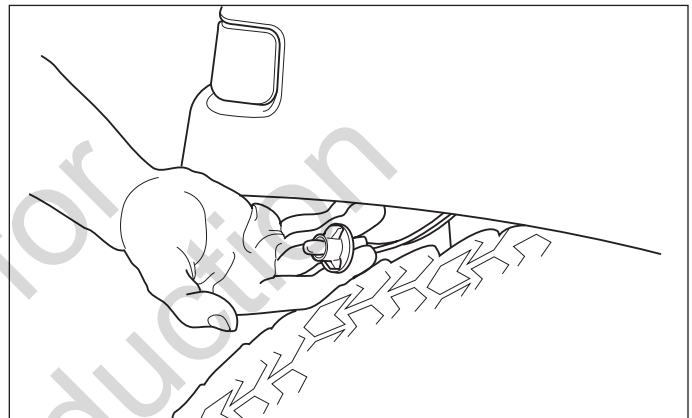

Figure 23. Taillight Replacement
1. Twist the socket counterclockwise and pull out to remove it from the taillight or dashboard display (Figure 23).